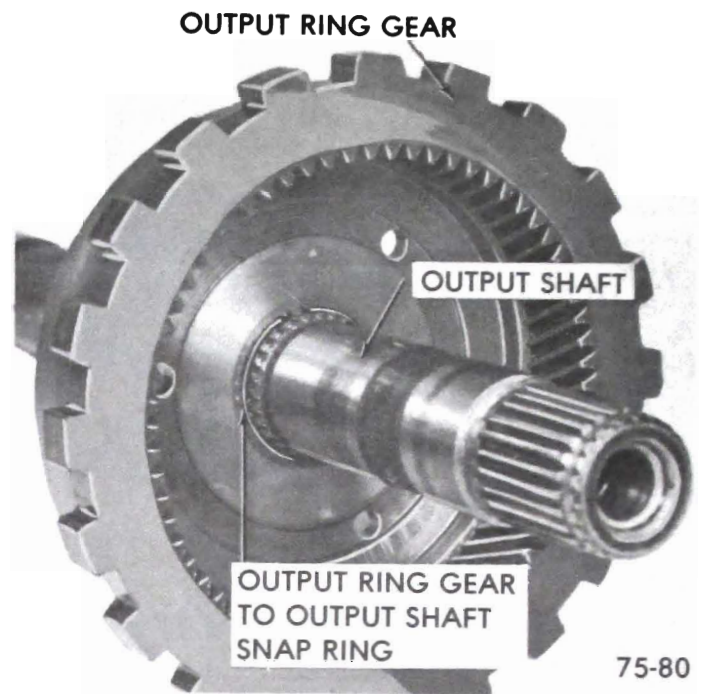

Figure 75-113
3. Remove output ring gear to output shaft snap ring and *discard* . Remove output ring gear from output shaft. See Figure 75-113.